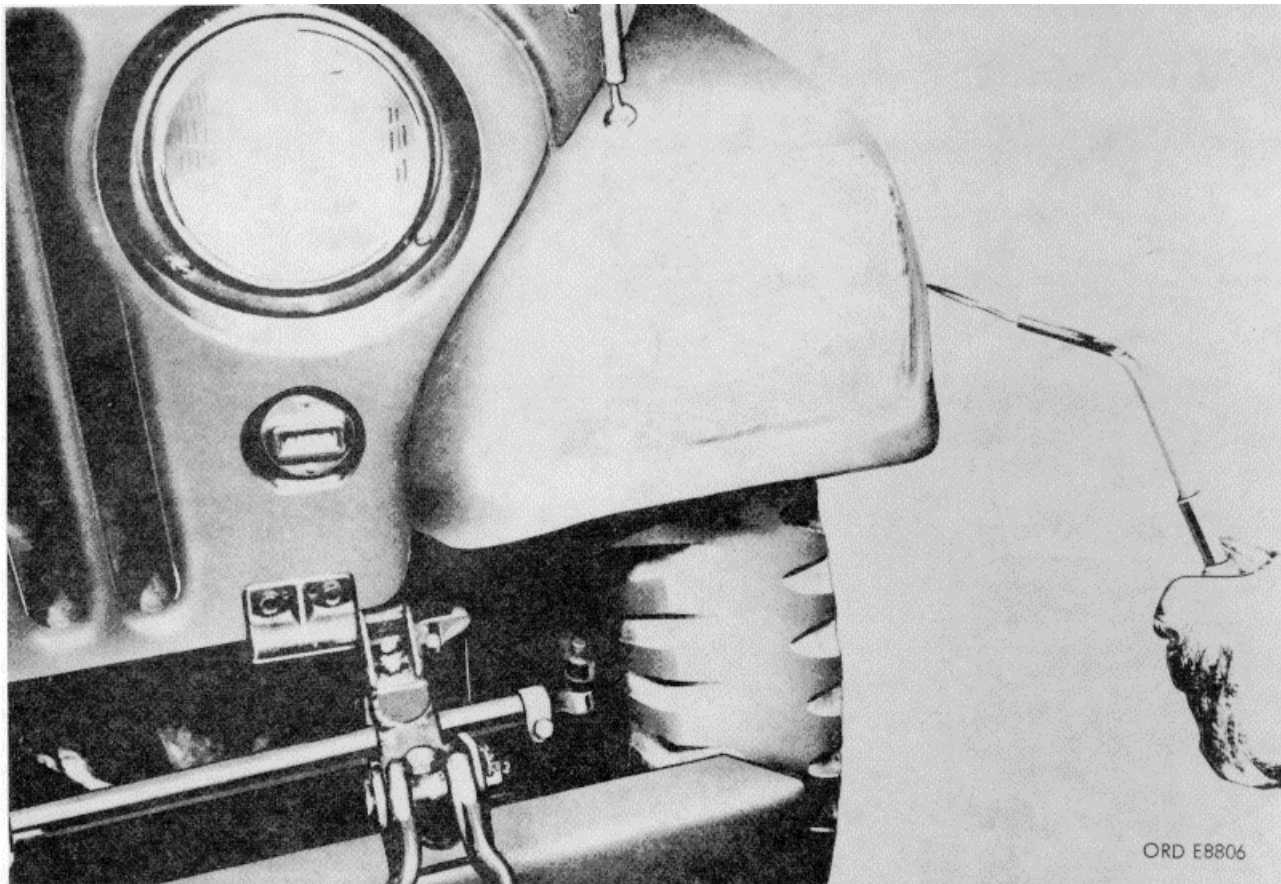

Figure 9. Propane torch curing Epoxy plastic.
b. Propane type torch, or equal; cool flame played uniformly over the repaired area; time 60 seconds only (fig. 9). This method should be used only when heat lamps are not available, and never used on any van-type bodies.